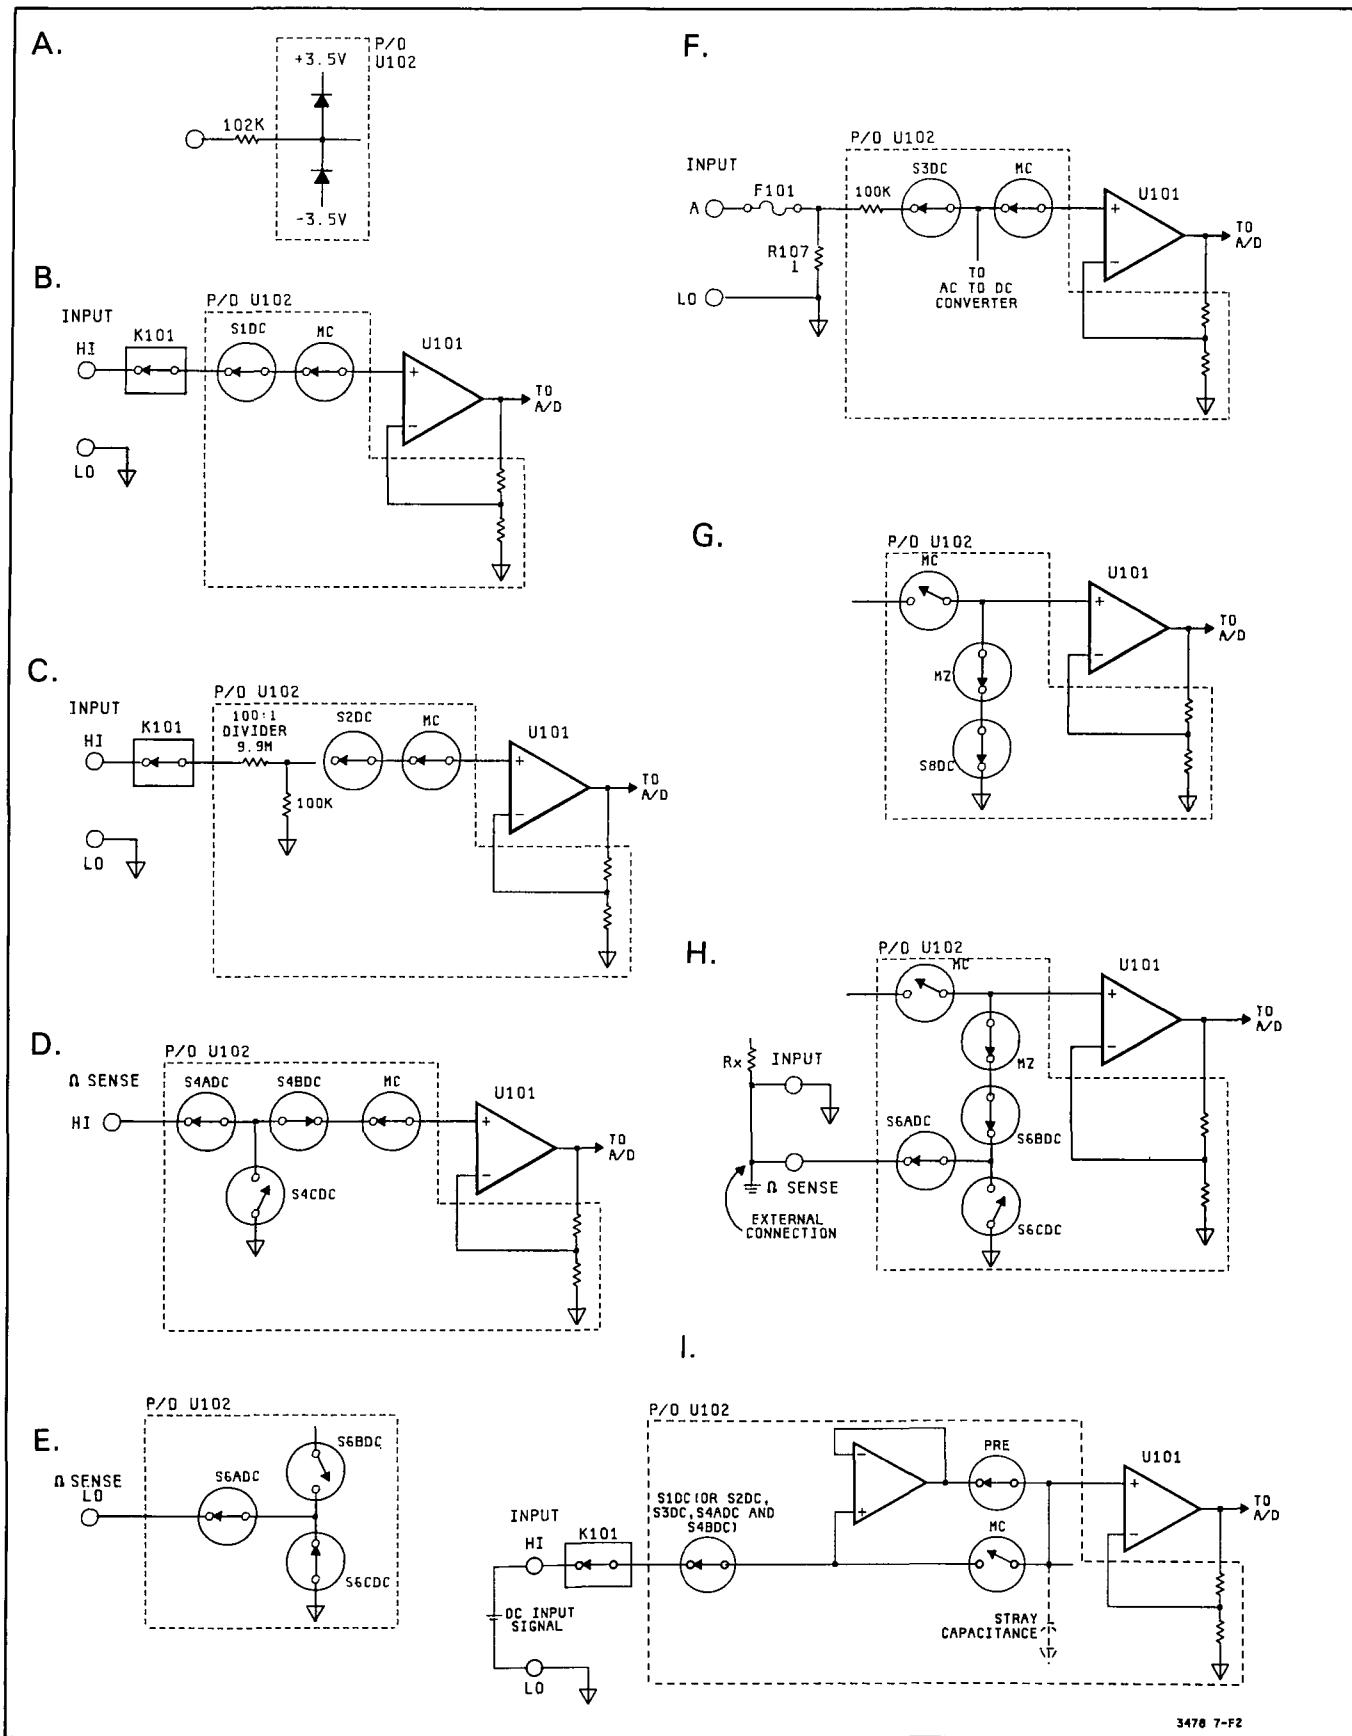

Figure 7-F-2. Simplified Schematic Of The Input Switching Circuitry
b. **Low Voltage Protection.** This circuit consists of diodes connected to the individual input nodes (part of the HI INPUT, LO INPUT, A INPUT Paths, etc.). The diodes on each node are connected (internally in U102) to + 3.5V and -3.5V power supplies. If the voltage on a node exceeds either + 4.2V or -4.2V, a diode conducts and keeps the level on the node to the  $\pm 4.2V$  levels. The difference between the high voltage at the input terminals and the voltage at the input nodes is dropped across the resistors which are in series with the diodes and input terminals (the low pass filter). Figure 7-F-2A shows a typical protection circuit.
7-F-13. **Input Switching.** The Input Switching Circuitry consists mostly of Relay and MOSFET switches, with most FET switches located in U102. The purposes of the switches are to provide five signal paths to the Input Amplifier and to connect the amplifier for a zero measurement (done in the Autozero Function; see paragraph 7-F-14). The switches are controlled by circuits in U102 which receive their control information from the A/D Controller. The following explains the various input paths. Refer to Figure 7-F-2 and Schematic 1 for the explanation.
a. **Low Voltage Range Input Path (Figure 7-F-2B).** The path consists of K101, R103, R104, R110, and S1DC (S1DC is in U102). The purpose of the path is to connect the HI INPUT Terminal (high input voltage) to the DC/Ohms Input Amplifier. The path is used only in the 30mV through 3V dc volts Ranges and all Ohms Ranges.
b. **High Voltage Range Input Path (Figure 7-F-2C).** The path consists of R110, K102, S2DC (in U102), and a 100:1 divider (9.9M ohm and 100K ohm resistors, RD99 and RD98, in U102). The purpose of the path is to attenuate input voltages by a factor of 100 and to connect the attenuated voltage to the DC/Ohms Input Amplifier. The path is used only in the 30V and 300V dc volts Ranges.
c. **Ohms High Sense Path (Figure 7-F-2D).** This path consists of R105, R106, and S4ADC and S4BDC (S4ADC and S4BDC are in U102). The path connects the HI OHMS SENSE Terminal (high ohms input) to the DC/Ohms Input Amplifier, only when the 3478A is in the 4-Wire Ohms Function. Switch S4CDC (which is also part of the path) is used to connect the junction of S4ADC and S4BDC to ground. Switch S4CDC is closed in all functions except the 4-Wire Ohms Function and shunts any possible voltage on the S4ADC and S4BDC junction to ground.
**d. Ohms Low Sense Path (Figure 7-F-2E).** This path consists of R101, R102, and S6ADC and S6CDC (S6ADC and S6CDC are in U102). The path is used to connect the LO OHMS SENSE Input Terminal (low ohms input) to ground (LO INPUT Terminal), when the 3478A is in the 4-Wire Ohms Function. In the 2-Wire Ohms Function, the low ohms input is the LO INPUT Terminal (which is connected to ground).
**e. Current Input Path (Figure 7-F-2F).** This path includes R107 and S3DC (in U102). The voltage drop across R107 (which is generated by the current being measured) is connected through S3DC to the DC/Ohms Input Amplifier. This path is used only in the DC Current Function.
**a. Autozero (in the DC Volts, DC Current, and 2-Wire Ohms Functions).** In the DC Volts, DC Current, and 2-Wire Ohms Functions, the zero measurement is made with switch MC (measure customer) open, and switch MZ (measure zero) and S8DC closed (see Figure 7-F-2G). Switch S8DC and MZ connects the DC/Ohms Input Amplifier to ground through a 102K ohm resistor. After the zero measurement is made, switch S8DC and MZ opens, and switch MC closes for the input measurement. (Note: MOSFET switches MC, MZ, and S8DC are in U102.)